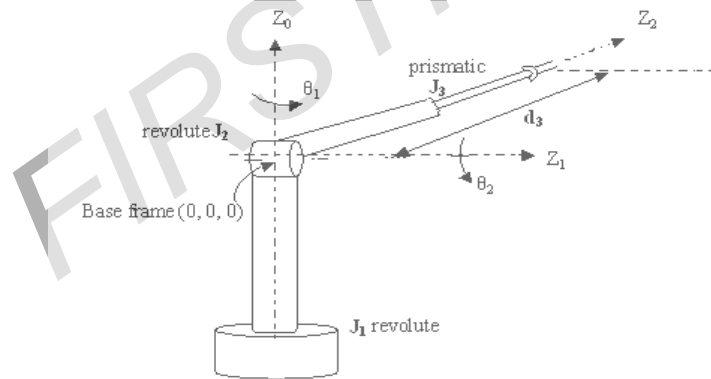

Figure 6
- Obtain the D-H link parameters for the three-dimensional three degrees of freedom manipulator shown in Figure 6. Find the homogeneous transformation matrix that describes the position and orientation of the end of arm with respect to the base frame.